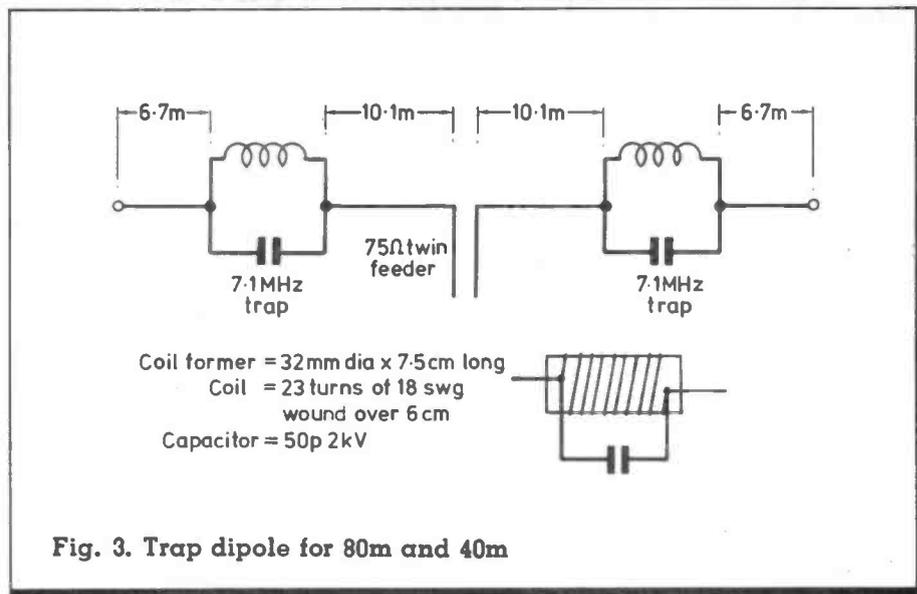

Fig. 3. Trap dipole for 80m and 40m
After some time of operation on 80m it was decided to see how a low dipole would work on 40m DX. As 80m operation was still required a W3DZZ type trap dipole antenna was constructed from data (1) as in Fig. 3. The coils were wound on off-cuts of plastic drainpipe, adjusted to resonance on 7.1MHz with a grid dip oscillator and coated with varnish for weather protection.